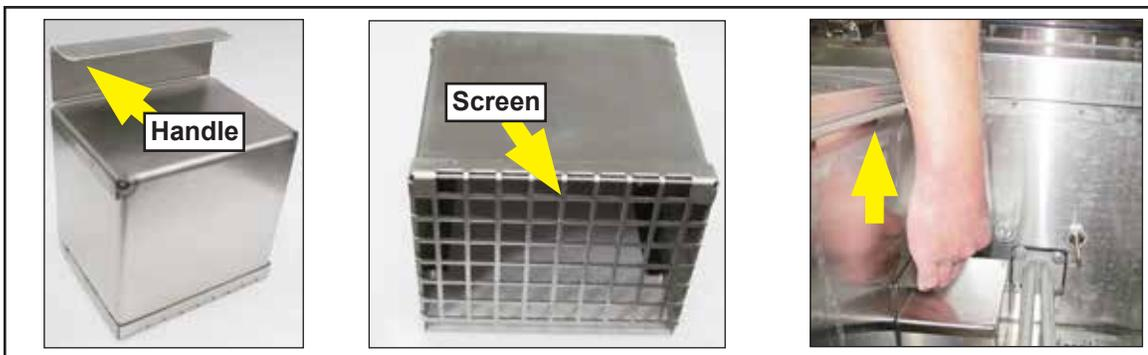

Fig. 69 - Wash tank pump suction strainer
- 1** The Wash tank strainer has a handle at the top and a strainer on the bottom. Pull the handle straight up to remove. Flush strainer clean in a remote sink and re-install, Fig. 69.